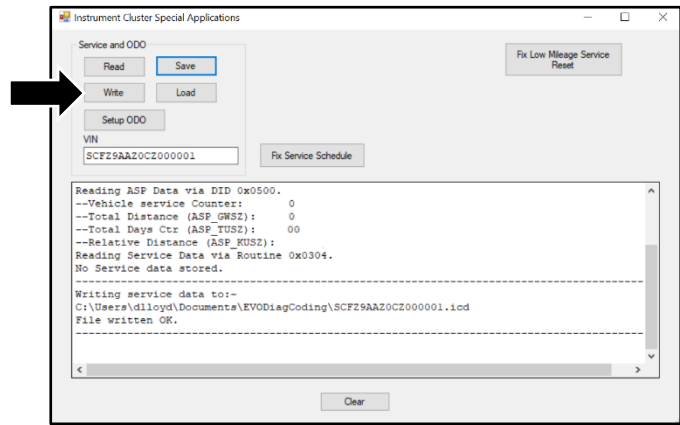

Figure 9
12. Click "Write" (refer to Figure 9).